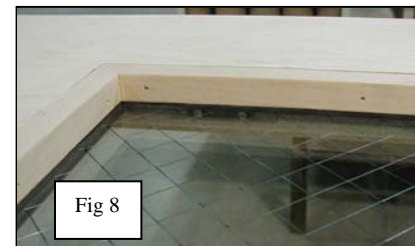

Fig 8
- After satisfactorily positioning the glazing bead in the opening, secure it using one two-inch nail (6d finish supplied or 16-gauge trim) centered between adjacent clips and at each end of the bead (Fig 8). **Note:** For hand nailing, pre-drilling the bead and any blocking material the nails will engage using a 5/64" bit is required.